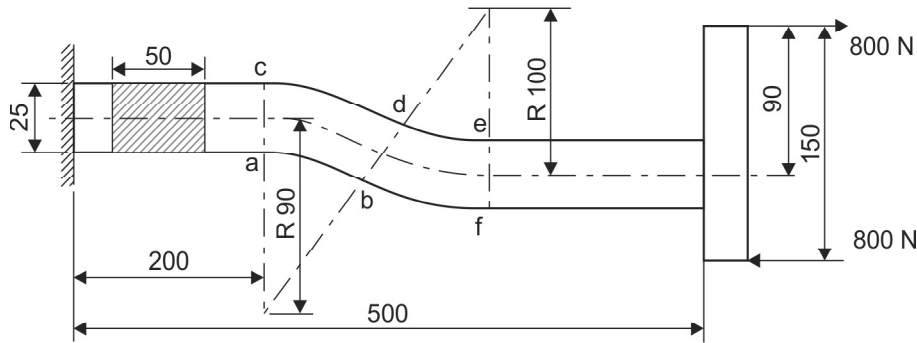

Fig. 1.19(a): Problem 15
15. An offset bar has forces applied as shown in Fig. 1.19(a). The bar is $(25 \times 50) \text{ mm}$. The offset of two applied forces is a pure couple that causes the same bending moment at every section of the beam. Determine the magnitude and location of maximum tension, maximum compression and maximum shear stresses.